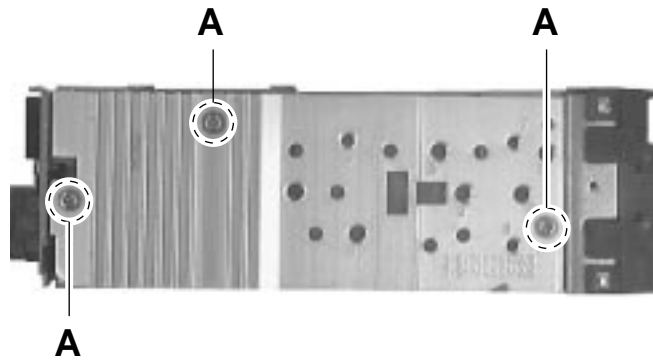

Fig. 2
■ Removing the heat sink (See Fig.2)